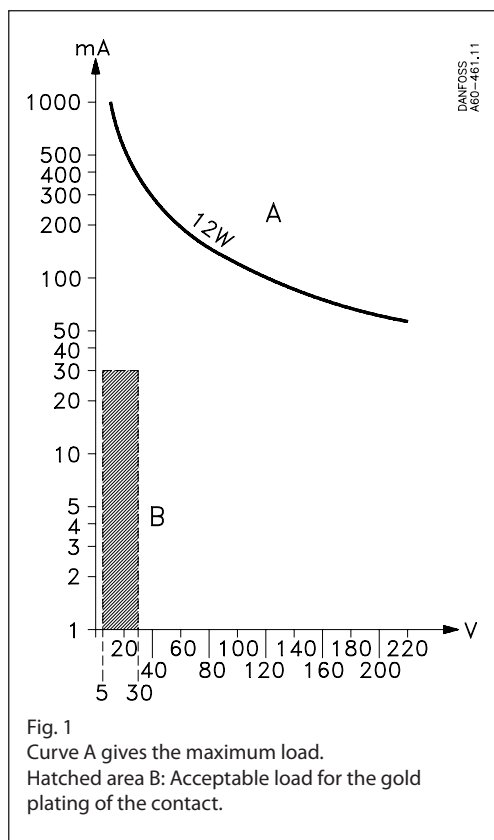

Fig. 1
When the pressure switch cover is removed, and the locking screw (5) is loosened, the range can be set with the spindle (1) while at the same time the scale (2) is being read. In units having an adjustable differential, the spindle (3) must be used to make the adjustment. The differential obtained can be read direct on the scale (4) or, with types KPS 43, 45, 47, can be determined by reading the scale value and using the nomograms in figs. 1, 2, 3 (page 3). The working line for determining the differential must not intersect the shaded areas in the nomograms.
Direct current: 12 W, 220 V, DC-13 – See fig. 1